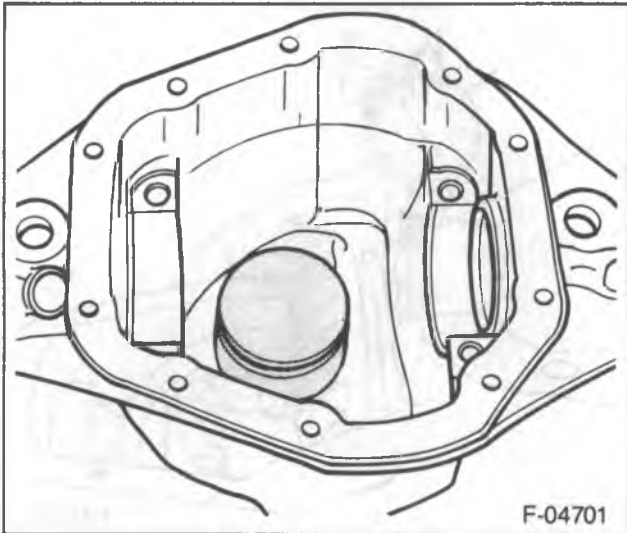

Figure 23—Master Pinion Block
2. Install D-120 to the pinion bore (figure 23).